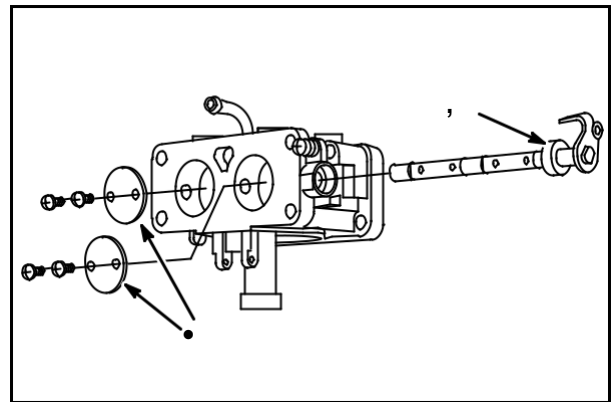

Fig. 123
Assemble new seal (2) to throttle shaft and insert into carburetor body, **Fig. 123**.